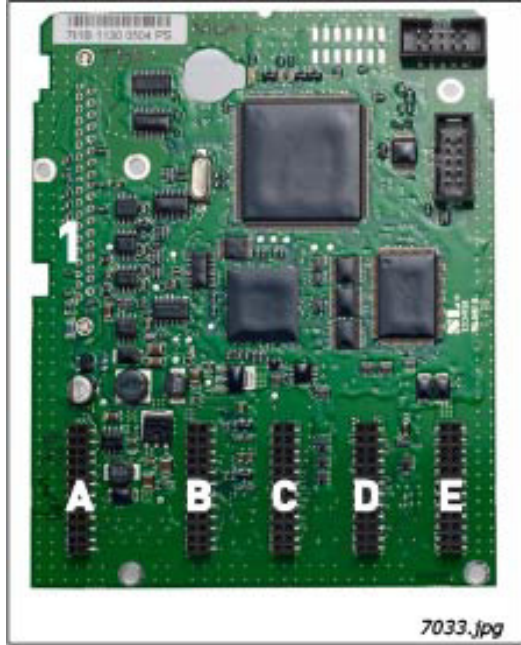

Figure 31. NXP control board
The control unit of the frequency converter consists roughly of the control board and additional boards (see Figure 31 and Figure 32) connected to the five *slot connectors* (A to E) of the control board. The control board is connected to the power unit through a D-connector (1) or fibre optic cables.